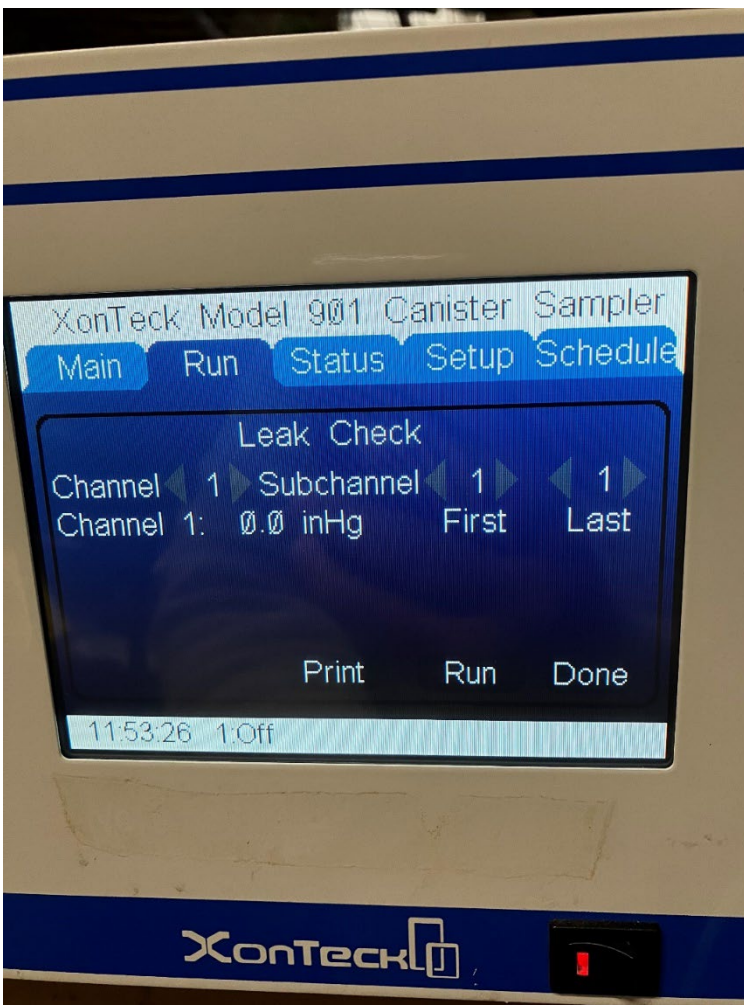

Figure 10. Leak Check dialogue screen. The initial pressure units are inHg, but once positive pressure is established, the units will change to PSI.
- 3.3.5.3 In the leak check dialogue (Figure 10), press the RUN button to begin the leak check. The pressure in Channel 1 will approach and hold near 10 PSI. The process may take up to a minute to complete.